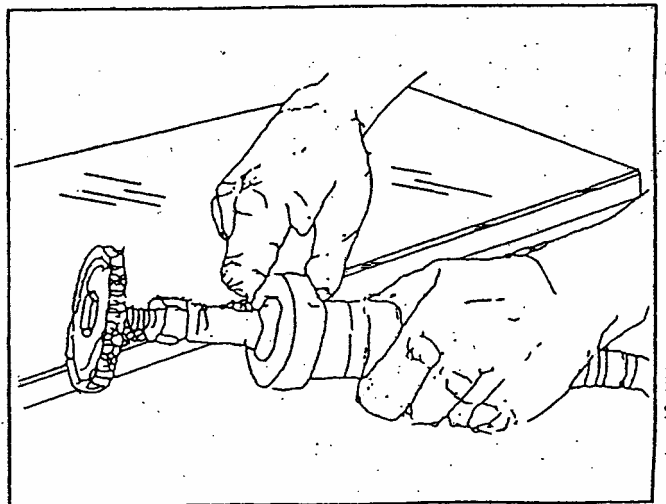

Figure 15
2. Buff until sanding marks are completely removed and the beveled edge is polished to a high gloss. See Figure 15.